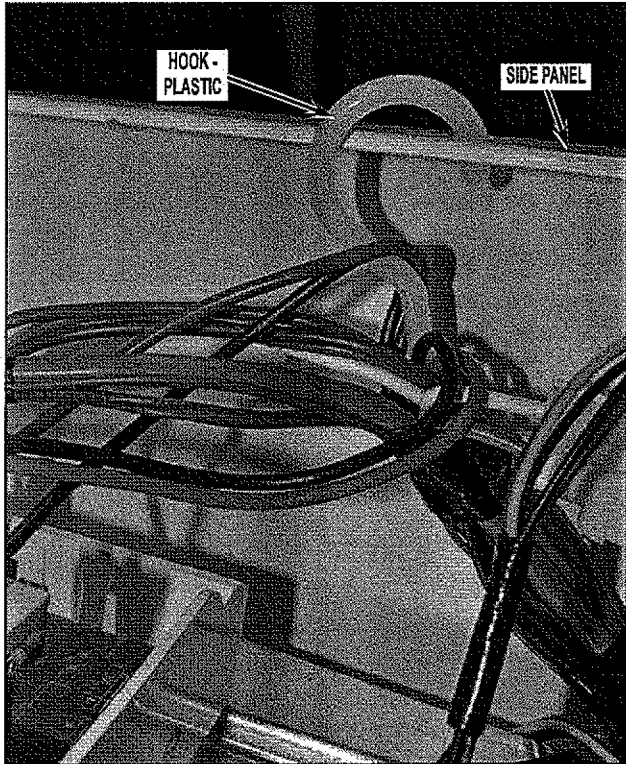

FIGURE 15
17. Before removing drum from dryer the CCU & bracket assembly must be secured in position to side panel using the plastic hook attached to the main harness. This will allow the CCU assembly to hang in place rather than dropping down when the drum is removed. See *Figure 15*.